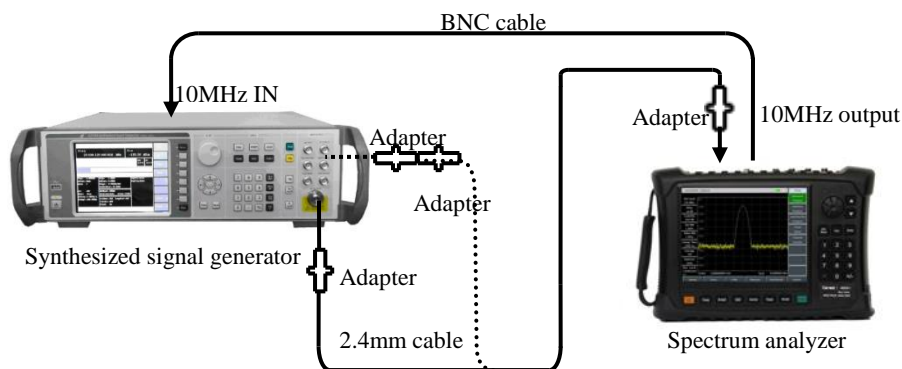

Fig. 12-1 Frequency Range Test
1) Connect the test equipment as shown by dotted lines in Fig. 12-1. Use 4024 series spectrum analyzer
(hereinafter referred to as the spectrum analyzer) to provide the reference frequency for the synthesized signal generator 1464C. Connect the low-frequency output port of the synthesized signal generator to the RF input end of the spectrum analyzer (as shown by the dotted line in Fig. 12-1).
4) As shown by the solid lines in Fig. 12-1, connect the synthesized signal generator with the adapter and cable, and then connect the RF output end of 1464C to RF input end of the spectrum analyzer. Set the output frequency of the signal generator as the maximum frequency of the spectrum analyzer of the corresponding model, disable the modulation function, and set the output power as -10dBm.